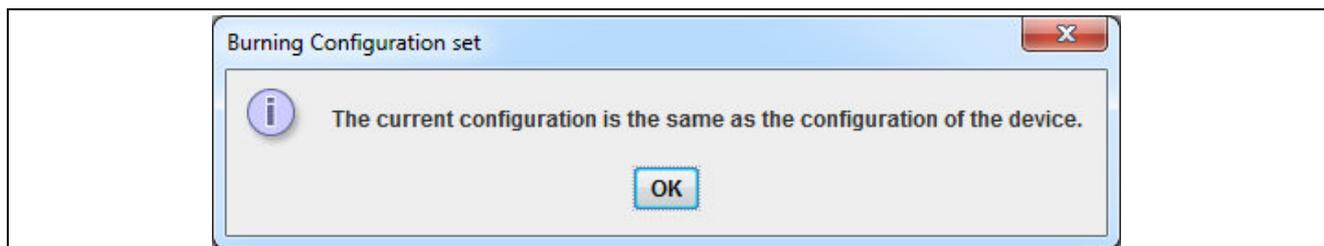

Figure 43 Reburning Configuration Set Attempt Message
4. For attempts at reburning, the message shown in **Figure 43** will appear.